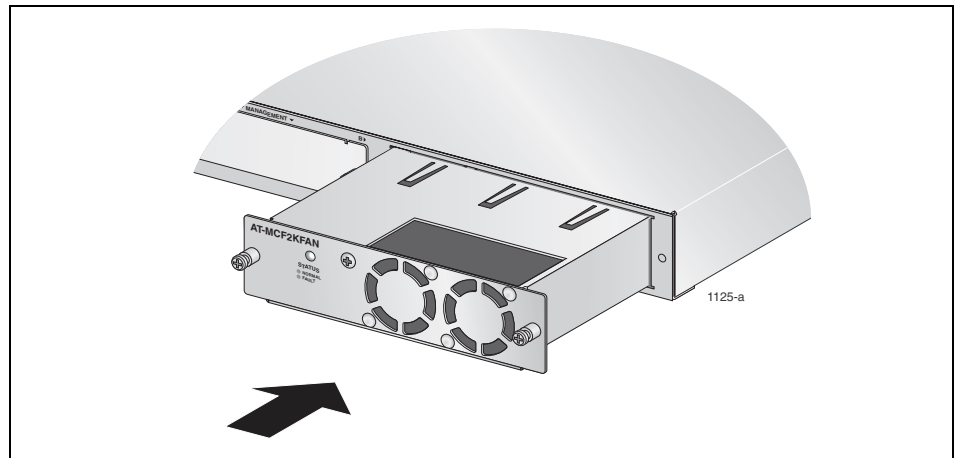

Figure 48. Installing the AT-MCF2KFAN Fan Module
3. Position the module as shown in Figure 48 and slide it into the slot until it is flush with the chassis. You may need to exert light pressure to seat the module on the connector on the back panel in the chassis.